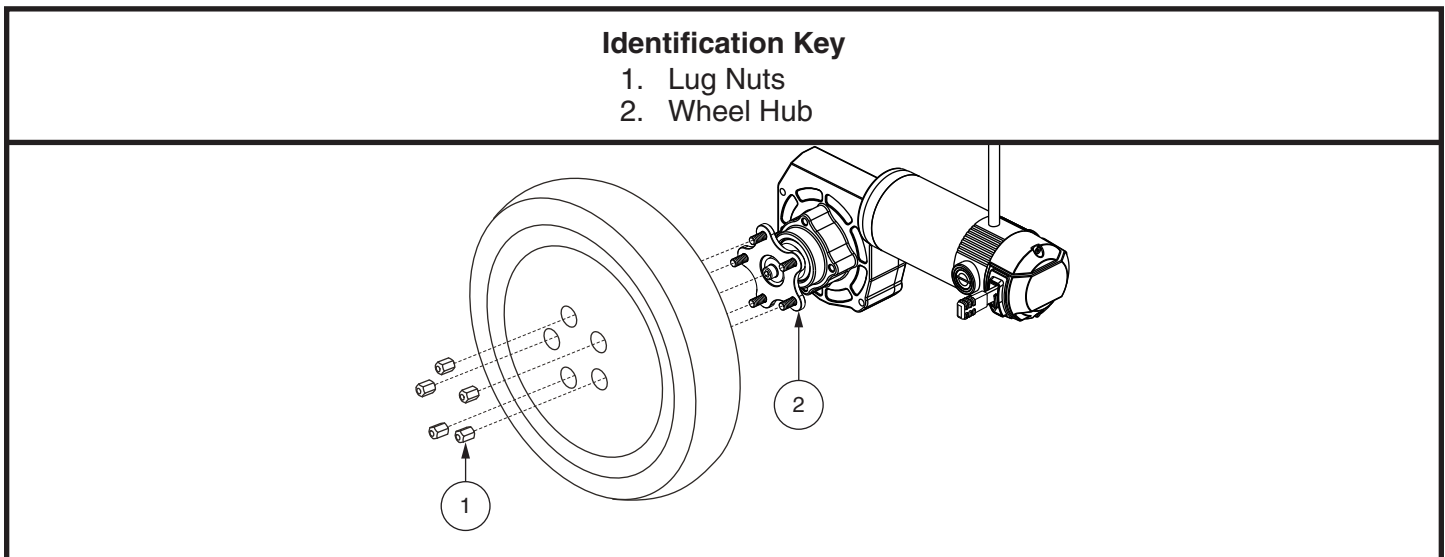

Figure 16. Aspen Drive Wheel
4. Remove the five (5) lug nuts from the wheel hub. **See figure 16.**